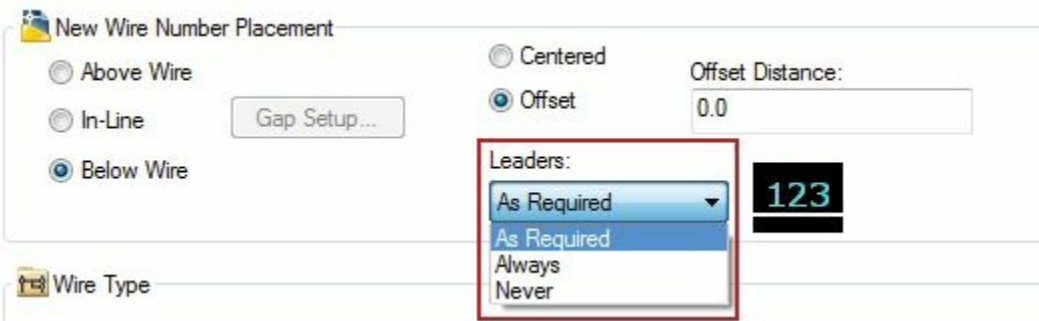

Figure-20. Leaders drop-down
- Click on the **Below wire** radio button to place the wire numbering below the wire. On selecting this radio button, the options related to leaders will become active. Select the desired option from the **Leaders** drop-down to specify the type of leader to be used while placing the wire number below the wire; refer to Figure-20.